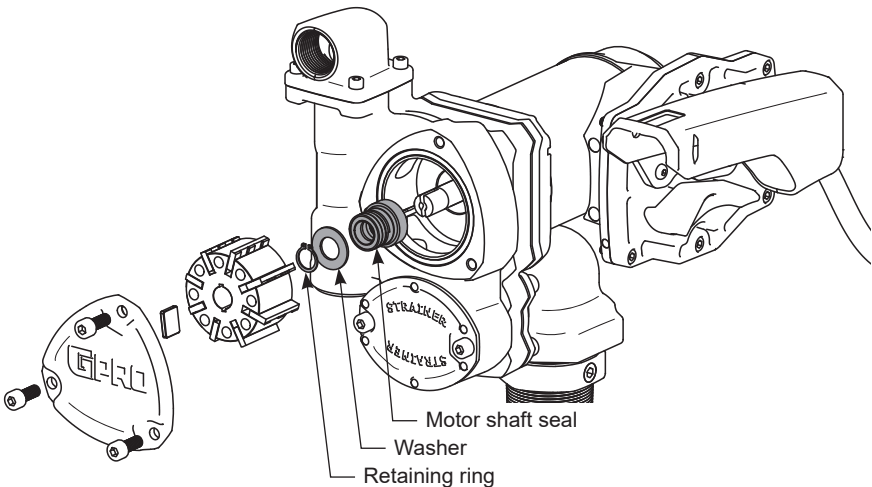

Figure 6
2. Using a 6mm Hex wrench, remove cover plate (see Figure 6). Remove cover plate O-ring.
3. Remove shaft key, rotor, and vanes. Remove vanes and key first before removing rotor to prevent them from falling into pump inlet (see Figure 6).
4. Using snap ring pliers, remove retaining ring, being careful not to damage motor shaft or housing bore (see Figure 6). Remove washer and motor shaft seal. Discard these three parts.